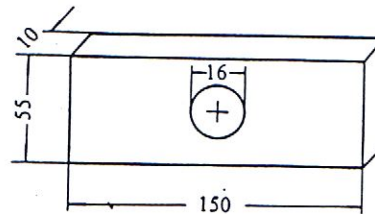

Fig. 30 Bottom plate 'B'
(see also Figs. 30, 31, 32 and 33)
① Place a plate-B in Fig. 30- laterally across the bottom of the liner and centralise it clear of obstructions.